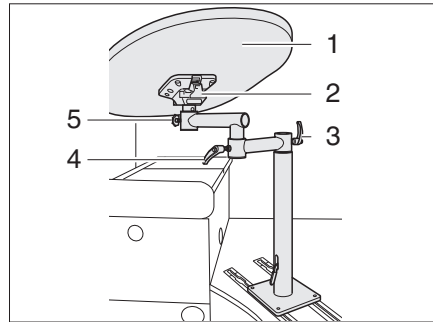

Fig. 40 Swivel table
- Insert the table-top into the holder and secure with the knurled screw Fig. 40,5).
- Fasten the table-top with the lever screws (Fig. 40,3 and 4).
- Loosen the lever screws (Fig. 40,3 and 4).
- Swivel table top (Fig. 40,1) into required position.
- Retighten the lever screws (Fig. 40,3 and 4).
- Loosen the knurled screw (Fig. 40,5).
- Pull the table-top (Fig. 40,1) out of the holder.
- Pull the table-top securing mechanism (Fig. 40,2) upwards and bring the table-top (Fig. 40,1) into a vertical position.